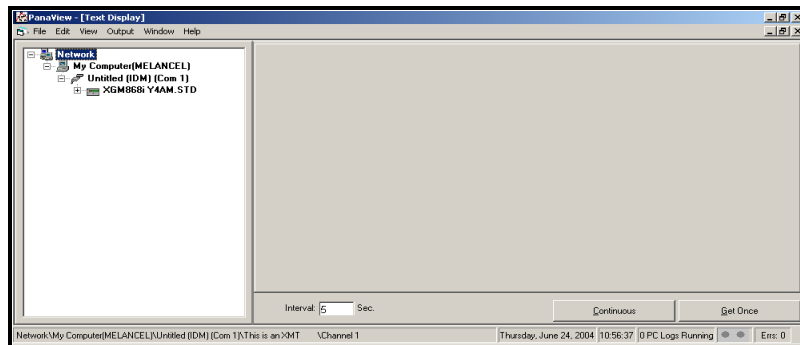

Figure 19: The Text Display Window
2. Using the *Window* menu, as described in the *PanaView User's Manual*, arrange the open windows in the desired format. For this discussion, Figure 19 shows the *Text Display* window in its maximized (full-screen) size.
5. Before actual data values can be displayed in the text pane, activate one of the following data collection modes (see Figure 19):